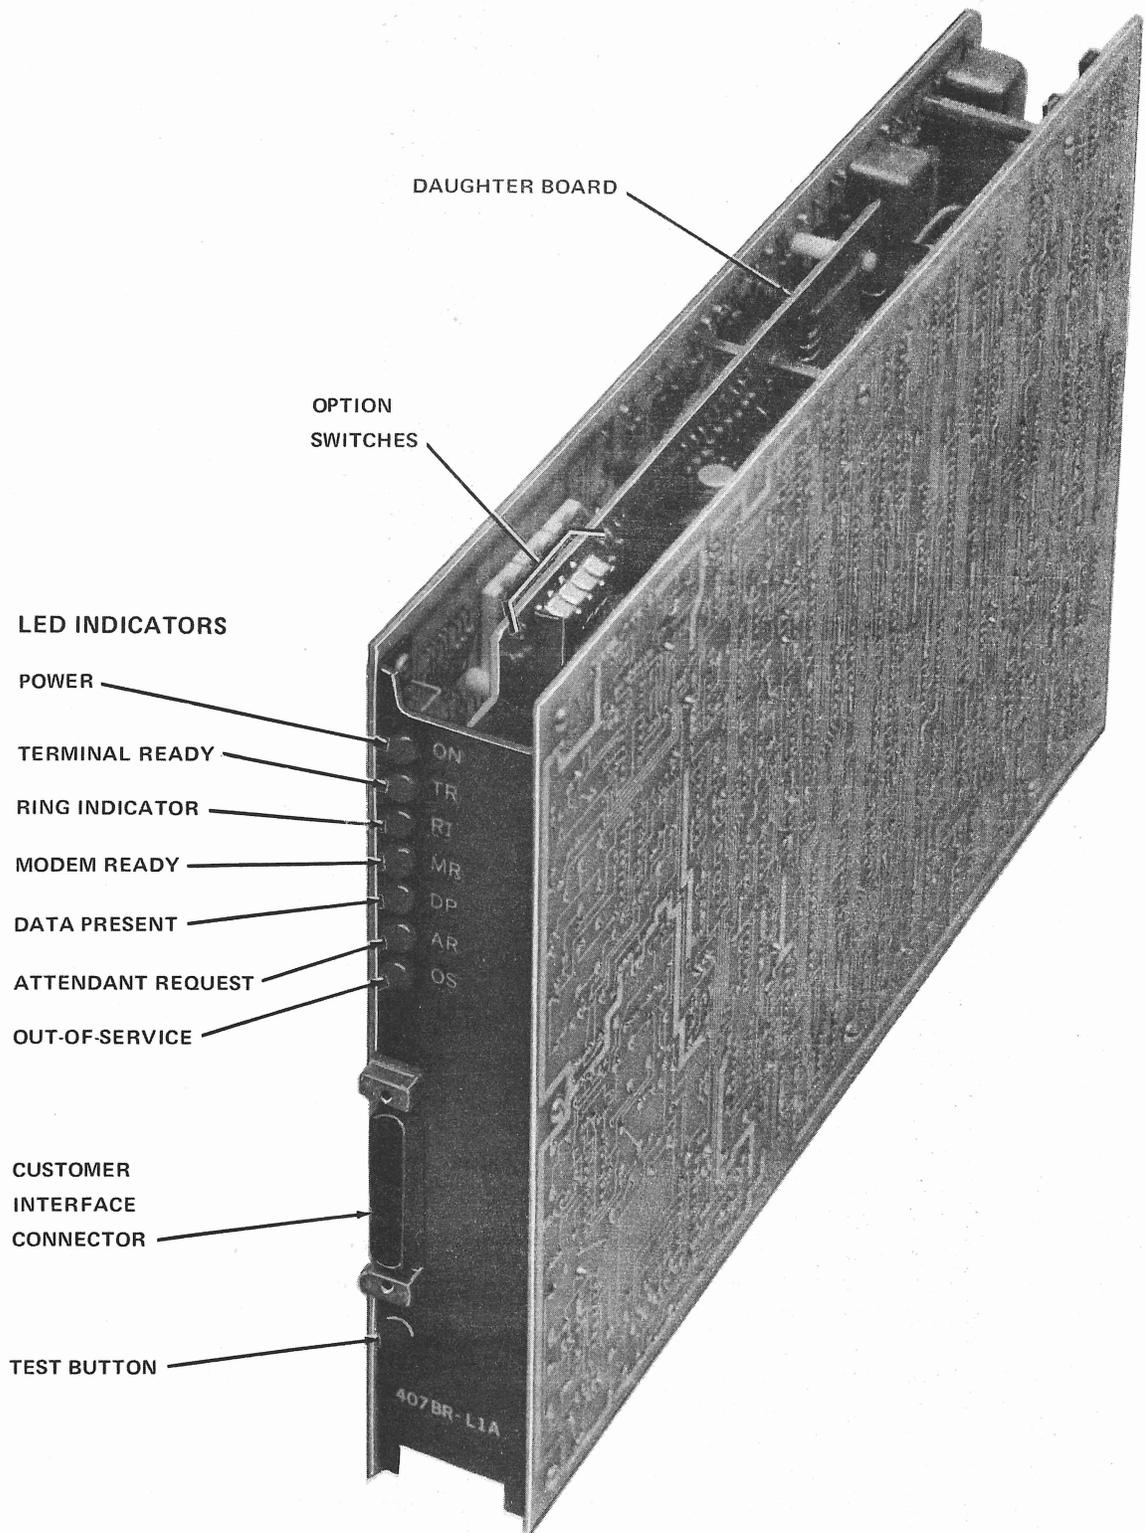

Fig. 3—Data Set 407BR-L1A
2.03 Data set 407BR-L1A (Fig. 3) consists of two CPs (JU2 and JU3B) similar to DS 407AR-L1B, with a daughter board CMI (circuit module) as part of JU3B. Dimensionally, the DS 407BR is the same as DS 407AR, and the set weighs about 3 pounds. The power source requirements are the same as DS 407AR. A 25-pin interface connector is located on the front of the set.